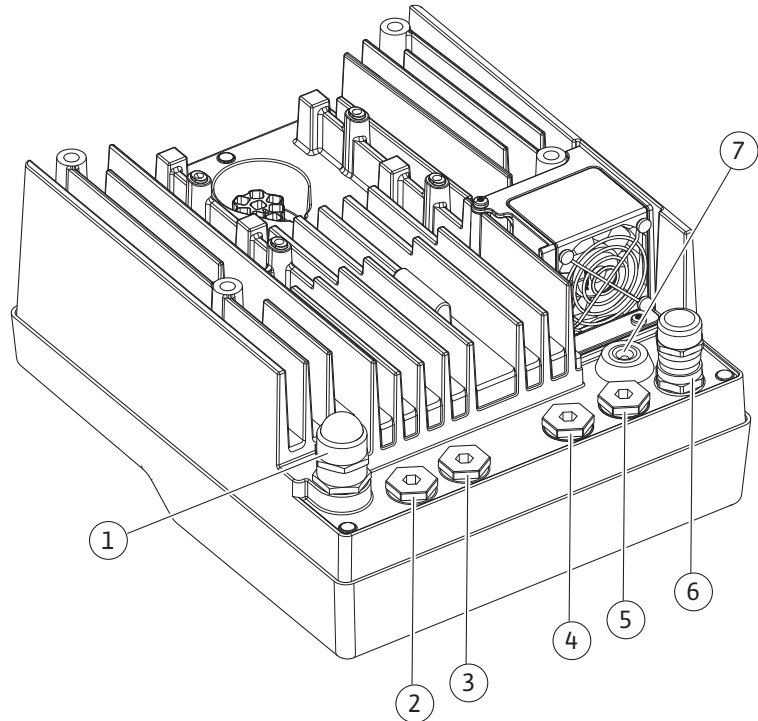

Fig. 10: Threaded cable glands/cable connections
- CIF module to the building automation (bus communication): The shield is connected to the cable entry on the electronic module (Fig. 10).
4. Guide the connection cable through the M25 threaded cable gland (Fig. 10, Item 1). Threaded cable gland with the specified torques.